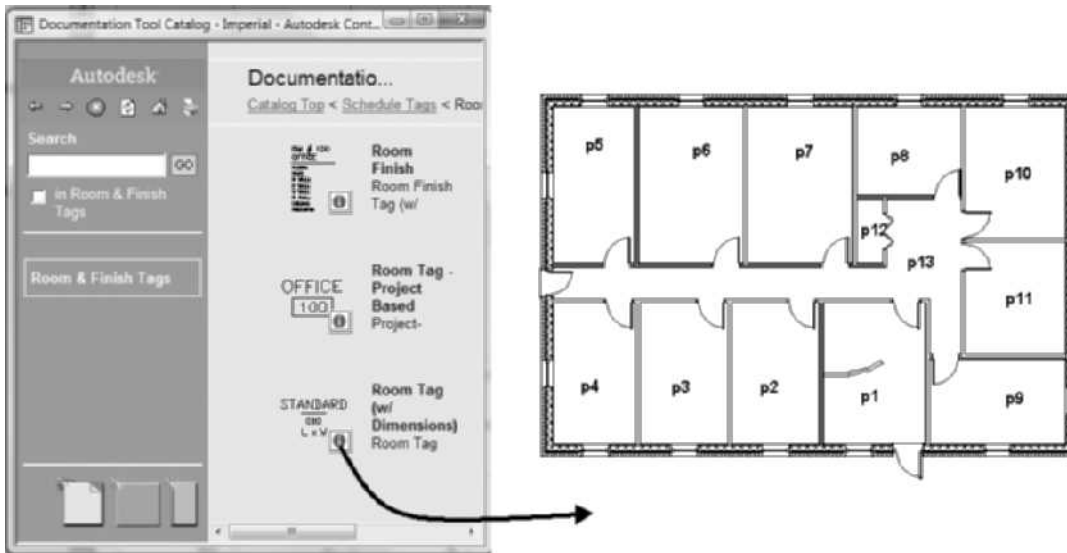

FIGURE 4.7 Room geometry for spaces
11. Move the cursor to point **p1** as shown in Figure 4.7. When the red polygon is displayed for the boundary, click to specify the boundary.
13. Verify the Properties palette as follows: Tag = **Aec8_Space_Tag [M_Aec8_Space_Tag]**, Create type = **Generate**, Geometry type = **Extrusion**. Move the cursor to point **p2** as shown in Figure 4.7. When the red polygon is displayed for the boundary, click to specify the boundary. Continue to click inside the rooms at **p3, p4, p5, p6, p7, p8, and p9**.